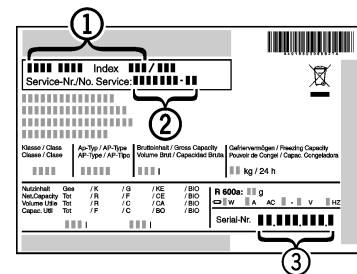

Fig. 6
- ▶ Read the appliance name *Fig. 6 (1)*, service no. *Fig. 6 (2)* and serial no. *Fig. 6 (3)* on the rating plate. The rating plate can be found on the inside of the appliance on the left.
- ▶ Notify our customer service team and give them the error, the appliance name *Fig. 6 (1)*, service no. *Fig. 6 (2)* and serial no. *Fig. 6 (3)*